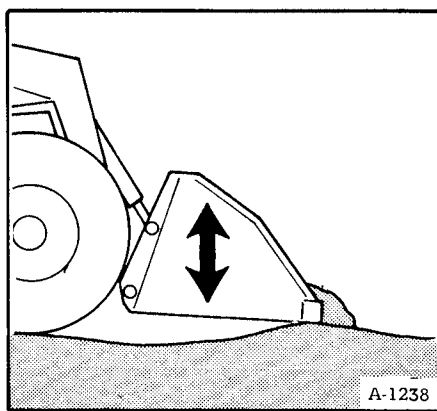

Fig. 22 Uneven Ground
4. Pressing the heel of the left (boom control) pedal down as far as it will go places the boom in float position. This allows the bucket to follow the contour of the ground (Figure 22).